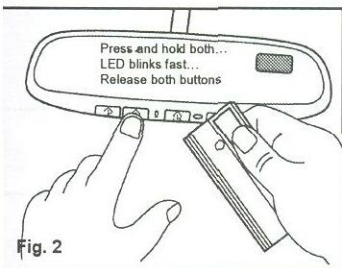

Fig. 2
4. Simultaneously press and hold both the chosen HomeLink® and hand-held transmitter buttons. **Fig. 2**